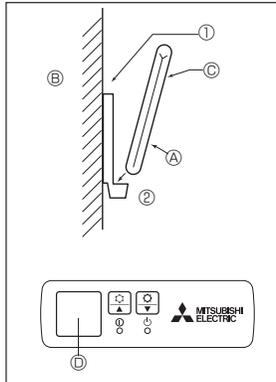
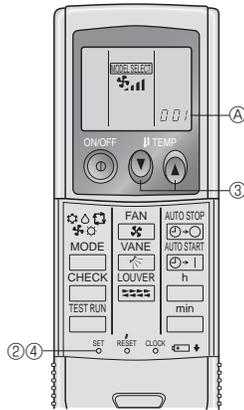

Fig. 6-2
Fig. 6-3
2) Installation method (Fig. 6-2)
① Attach the remote controller holder to the desired location using 2 tapping screws.
② Place the lower end of the controller into the holder.
③ Remote controller (A) Wall (B) Display panel (C) Receiver (D)
3) Setting (Fig. 6-3)
① Insert batteries.
② Press the SET button with something sharp at the end.